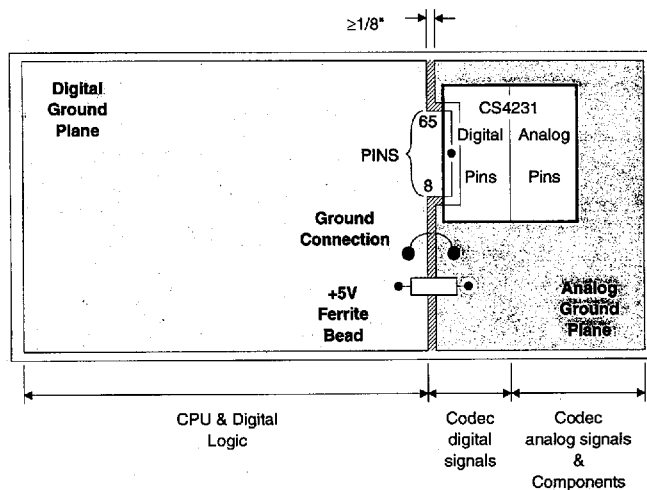
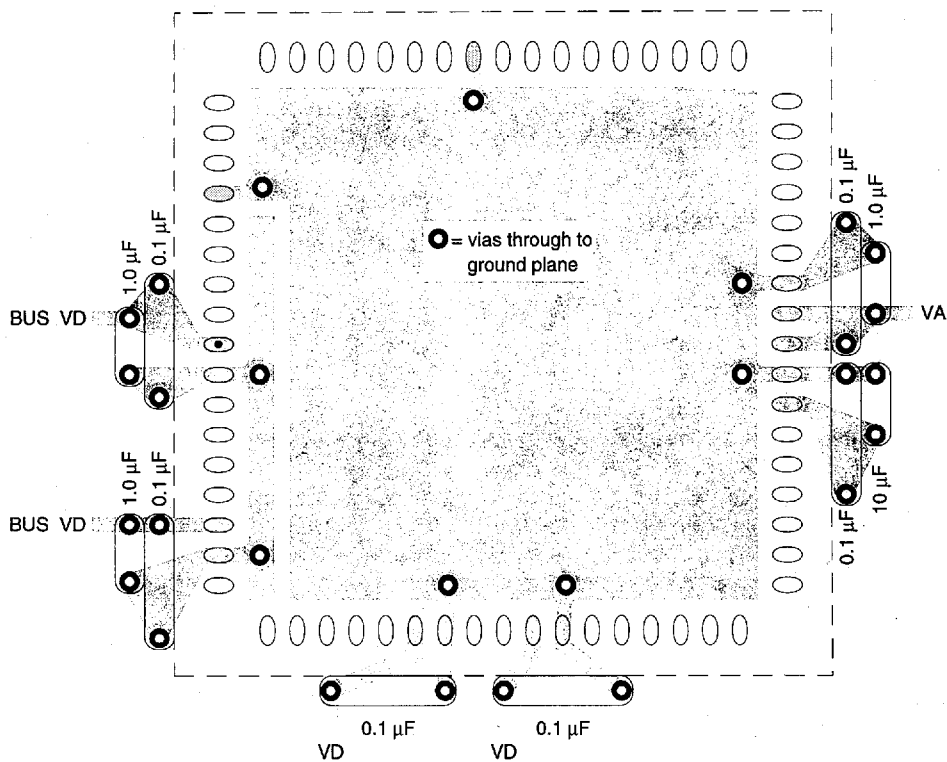

Figure 16. Suggested Layout Guideline
Figure 17. Recommended Decoupling Capacitor Positions
Figure 16 is a suggested layout for the CS4231. Similar to other Crystal codecs, it is recommended that the device be located on a separate analog ground plane. With the CS4231's parallel data interface, however, optimum performance is achieved by extending the digital ground plane across pins 65 through 68 and pins 1 through 8. Pins 2 and 8 are grounds for the data bus and should be electrically connected to the digital ground plane which will minimize the effects of the bus interface due to transient currents during bus switching. Figure 17 shows the recommended positioning of the decoupling capacitors. The capacitors must be on the same layer as, and close to, the CS4231. The vias shown go through to the ground plane layer. Vias, power supply traces, and VREF traces should be as large as possible to minimize the impedance.
3. Although optimum performance is achieved using the ground plane shown in Figure 16, any ground plane scheme that achieves acceptable performance with the AD1848 should work with the CS4231.